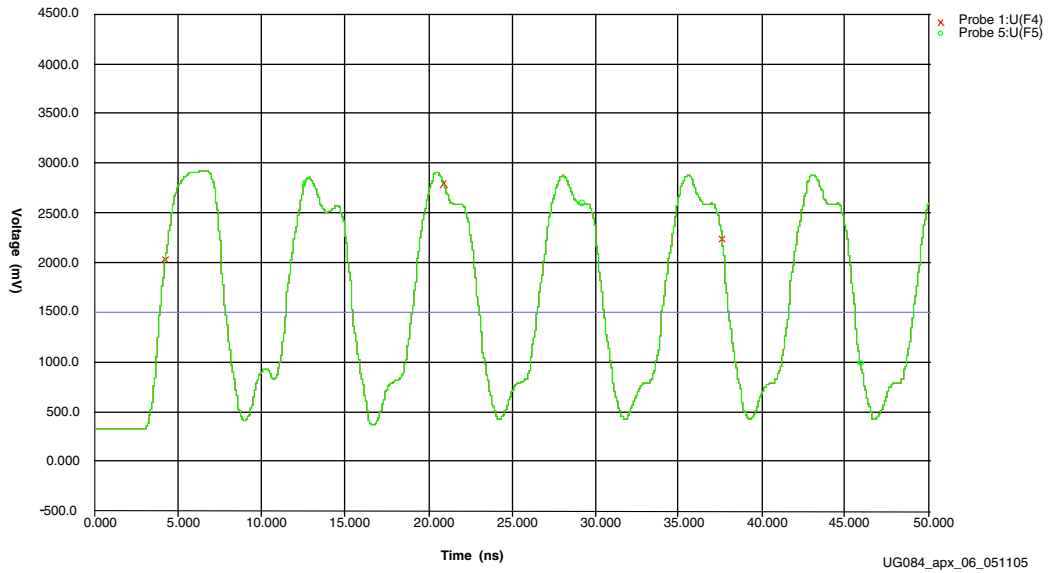

Figure A-6: Top and Bottom Jumpers are Transmission Lines (Hard Routed through Nets)
- Figure A-6, Top and Bottom Jumpers are Transmission Lines (Hard Routed through Nets)
In Figure A-6, the waveform shows either destination pin U10.C13 or U10.D2.